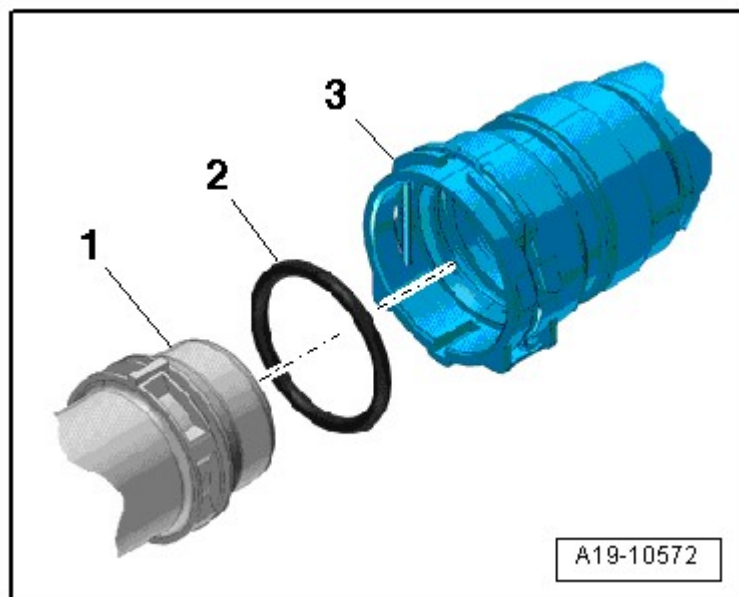

Fig. 98: Connecting Coolant Hose To Coupling
-- Connect coolant hose to connector on the radiator **Fig. 98**